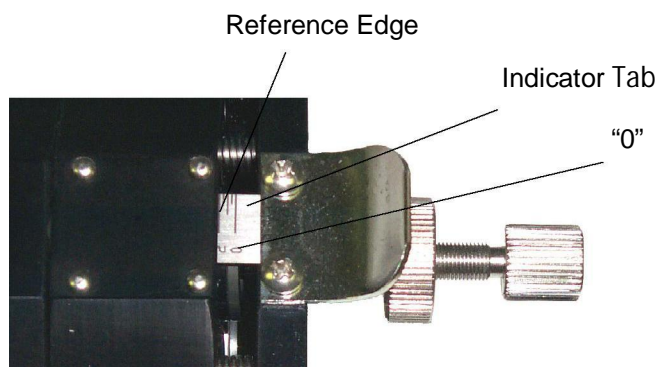

Figure 5.7 Indicator Tab Alignment
5.5.2 Indicator Tab Alignment (Figure 5.7)
The illustrated parts breakdown (Figure 5.7) contains the information required for identifying and ordering replacement parts.